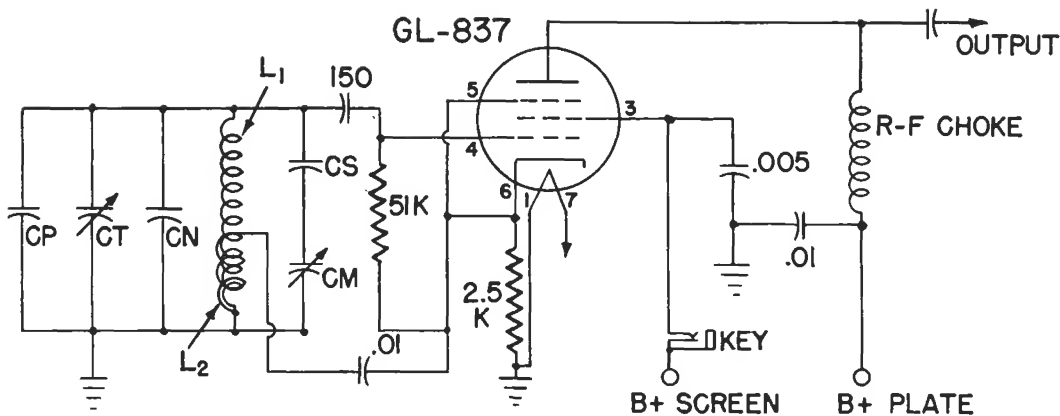

Fig. 2. Circuit Diagram of One-band ECO
Many types of oscillators can be used to generate a radio-frequency signal, and most of these types (ECO, Hartley, tuned-plate grid tickler, tuned-plate tuned grid and negative transconductance) have been used in VFO design. All of them, properly applied, will give a satisfactory VFO. The ECO was chosen because it fits in with more of the requirements which were subsequently found necessary. The schematic diagram, Fig. 2, gives the basic circuit for the electron-coupled oscillator to be used in the Five-band VFO.
Let us assume that you want to calculate the necessary L and C for the circuit in Fig. 2 for a given band—say 1750 to 2000 kilocycles. First, you must select a value of total capacitance ( $CP + CT + CN + CM + \text{stray}$ ). This is not difficult, and as a starter you should use 500–1000 mmf for 160, 80 and 40 meters, and 300–600 mmf for 20 meters. Call it 500 mmf in this case. The next step is to find the capacitance variation necessary to tune across the band. The formula for this is:
It is possible to take the circuit in Fig. 2 and add a tuning condenser and coil in the plate circuit (instead of the r-f choke shown). The coil would be resonant at the frequency generated by the grid circuit. The tuning condenser would allow us to peak the plate circuit, and thus we would be able to drive any other tube desired. This system would work perfectly if our mechanical and electrical design were also perfect. It is much safer not to tune the plate circuit, if frequency stability is desired. In other words, the less we do with the plate circuit, the less the plate circuit is likely to affect the grid circuit.
An untuned plate circuit is shown in Fig. 2. It consists of an r-f choke, which in reality is a broadly resonant coil and condenser combination. The capacitance exists due to the turn-to-turn capacitance in the r-f choke itself. A mica or ceramic condenser couples this stage to the following stage. A plate circuit of this sort has one disadvantage over the tuned circuit, in that less output will be obtained. However, it is undesirable to take a lot of power from an oscillator, so that the untuned plate circuit is ideal in this case.
If temperature compensating condensers are used further adjustment is needed. Referring to Fig. 2, CN and CT are the condensers in question. They are adjusted by listening to the signal on a receiver, and then deliberately adding heat to the oscillator grid circuit. An infra-red heat lamp is ideal for this. If the frequency increases as the temperature rises, add capacity in the negative temperature coefficient condenser (CN) and take out capacity by CT so that the frequency comes back to the same point. Keep this up until the frequency is as constant as possible, due to heat increase or decrease.